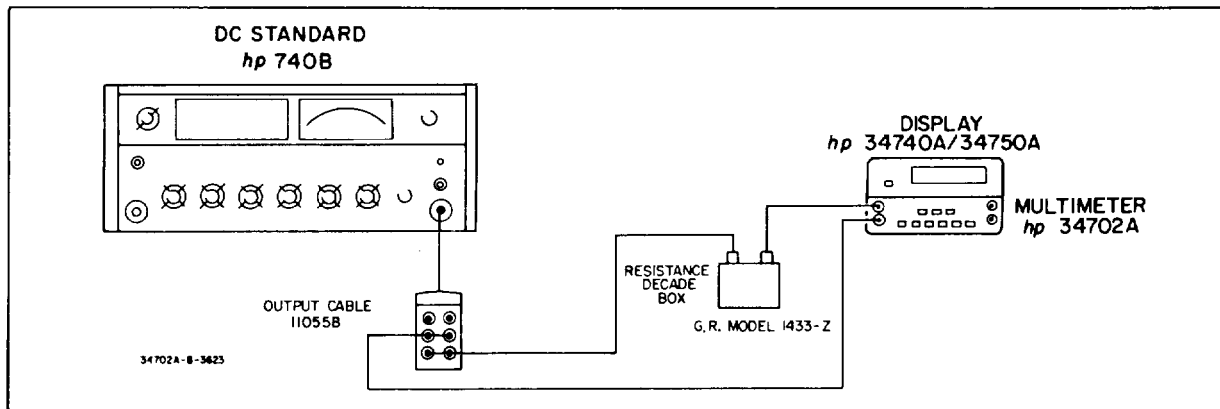

Figure 5-1. Input Impedance Test.
a. Connect the equipment as shown in Figure 5-1. The Model 34702A should be set to DCV on the 1 V range.